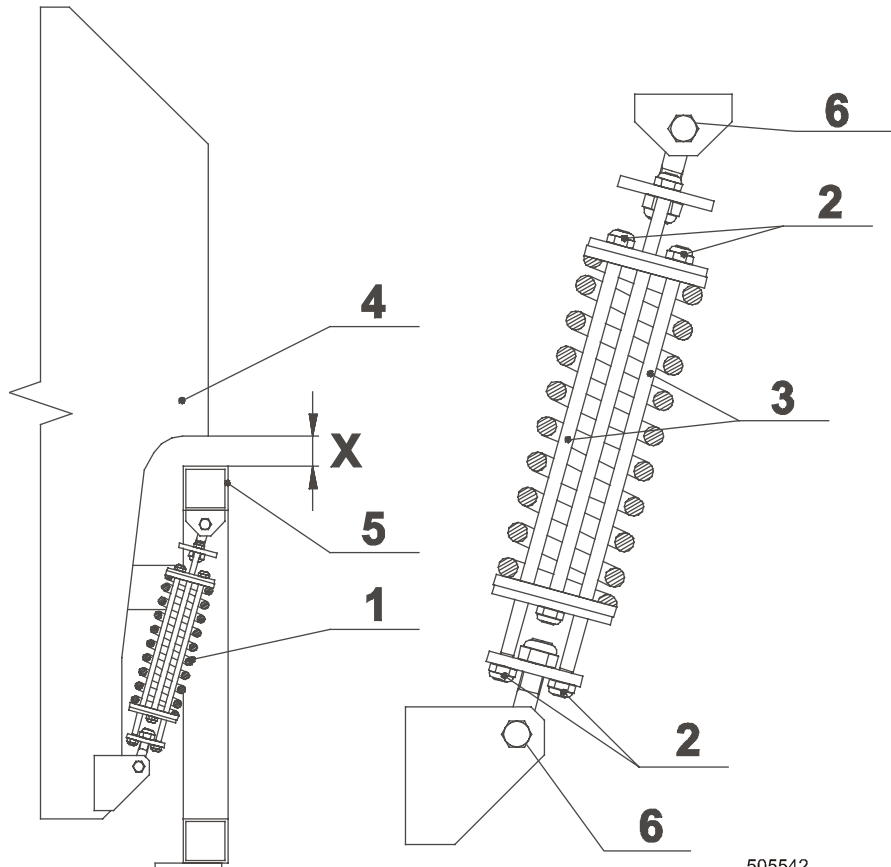

Fig.5.12.
Once in 6 months or when needed, grease spring suspension eyes (fig.5.12, pos. 6), guiding rods (3), the door handle casing (fig.5.11.A, pos.2) and the casings in the door brackets (2).
Spring units (fig.5.12., pos.1) are to be adjusted in the case that you found out the suspended machine part is not in a horizontal position (without linen and water) or after the spring unit has been replaced.